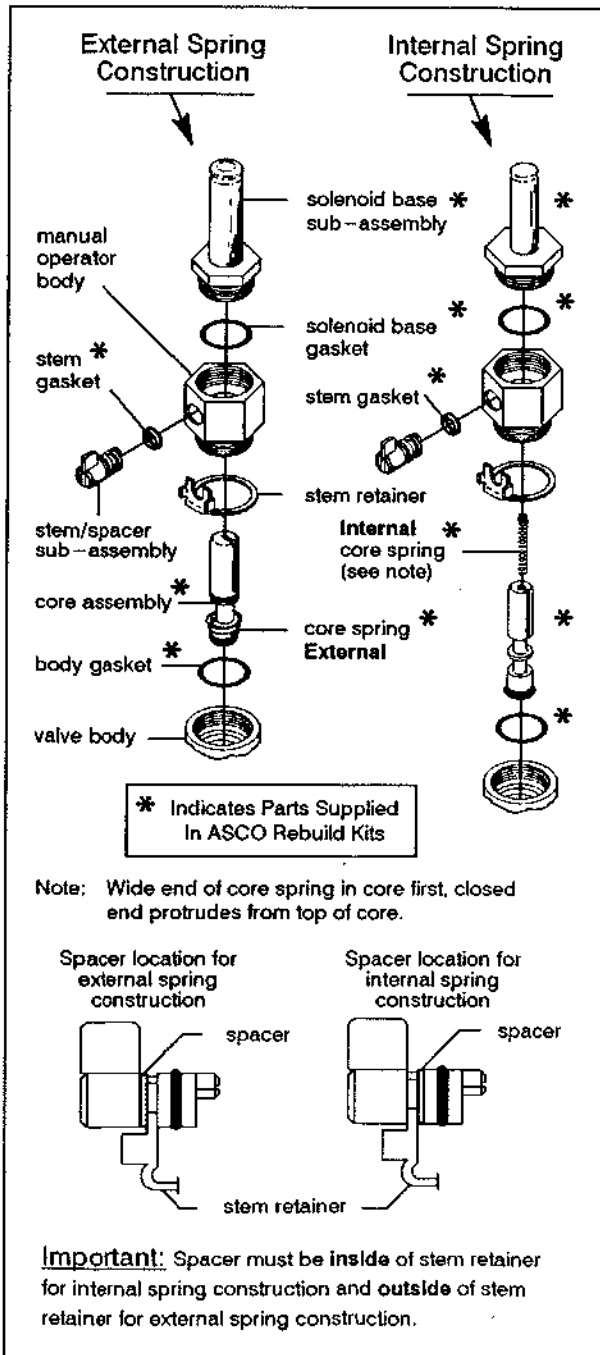

Figure 3. Stem/lever type manual operators
4. For normally open construction (Figure 3) remove end cap, or manual operator, (not shown) end cap gasket, disc holder spring, and disc holder assembly.
3. For normally open construction (Figure 3), install disc holder assembly, disc holder spring, end cap gasket and end cap or manual operator. For valves with 1/8" NPT, torque end cap or manual operator to  $90 \pm 10$  in-lbs [ $10.2 \pm 1.1$  Nm]. For all other valves torque end cap or manual operator to  $175 \pm 25$  in-lbs [ $19.8 \pm 2.8$  Nm].
## Disassembly and Reassembly of Stem /Lever Type Manual Operator (Refer to Figure 3)